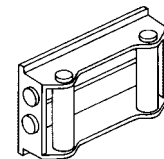

Figure 19
6. EQUIPPING THE WINCH WITH A ROLLER FAIRLEAD will substantially reduce wear on the wire rope during angle pulls (Figure 19). The rollers eliminate heavy rubbing and abrasion to the wire rope.